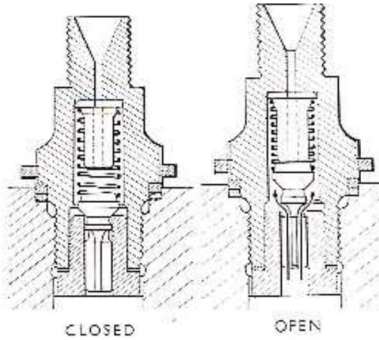

FIG. 3. SECTION VIEW OF DELIVERY VALVE
**FUNCTION OF THE DELIVERY VALVE (Fig. 3)**